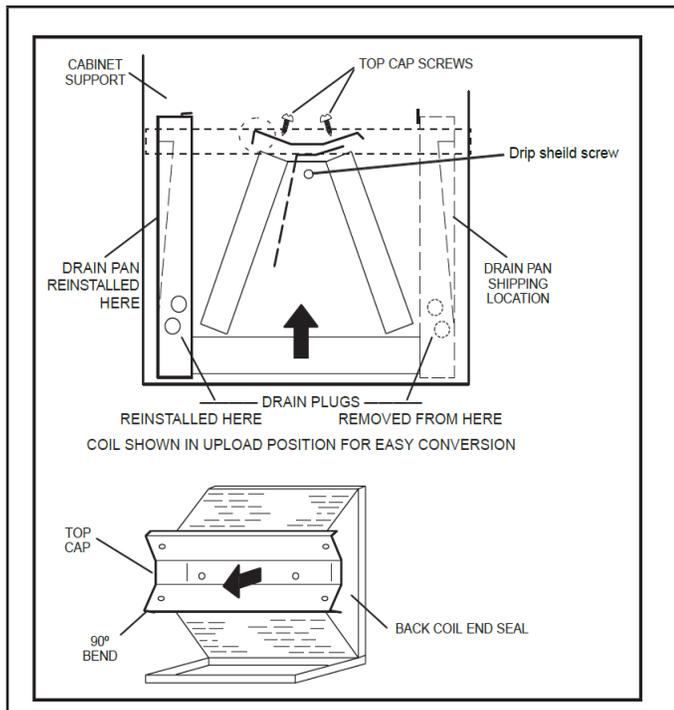

FIGURE 7. Field Modification for Left-Hand Discharge
- 7 - Reattach top cap to coil using the same screws. See FIGURE 7